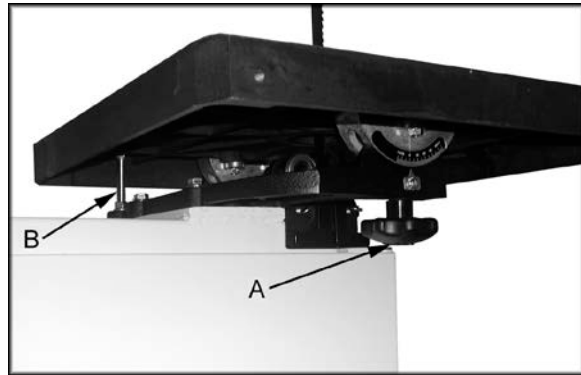

Figure 13
2. Loosen the lock knobs (A, Fig. 13).
**Note:** Table stop bolt (B, Fig. 13) must be removed to tilt table to the left.